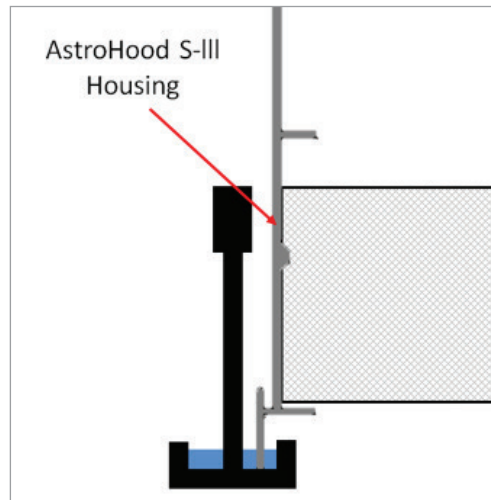

Fig. 03 Mount – Gel Trough Grid
2. Set the module such that the knife-edge is centered in the grid gel seal trough. Check to ensure the knife edge of the module penetrates the gel around the entire perimeter of the unit. The weight of the module is enough to set the unit into the gel (see Fig. 03).